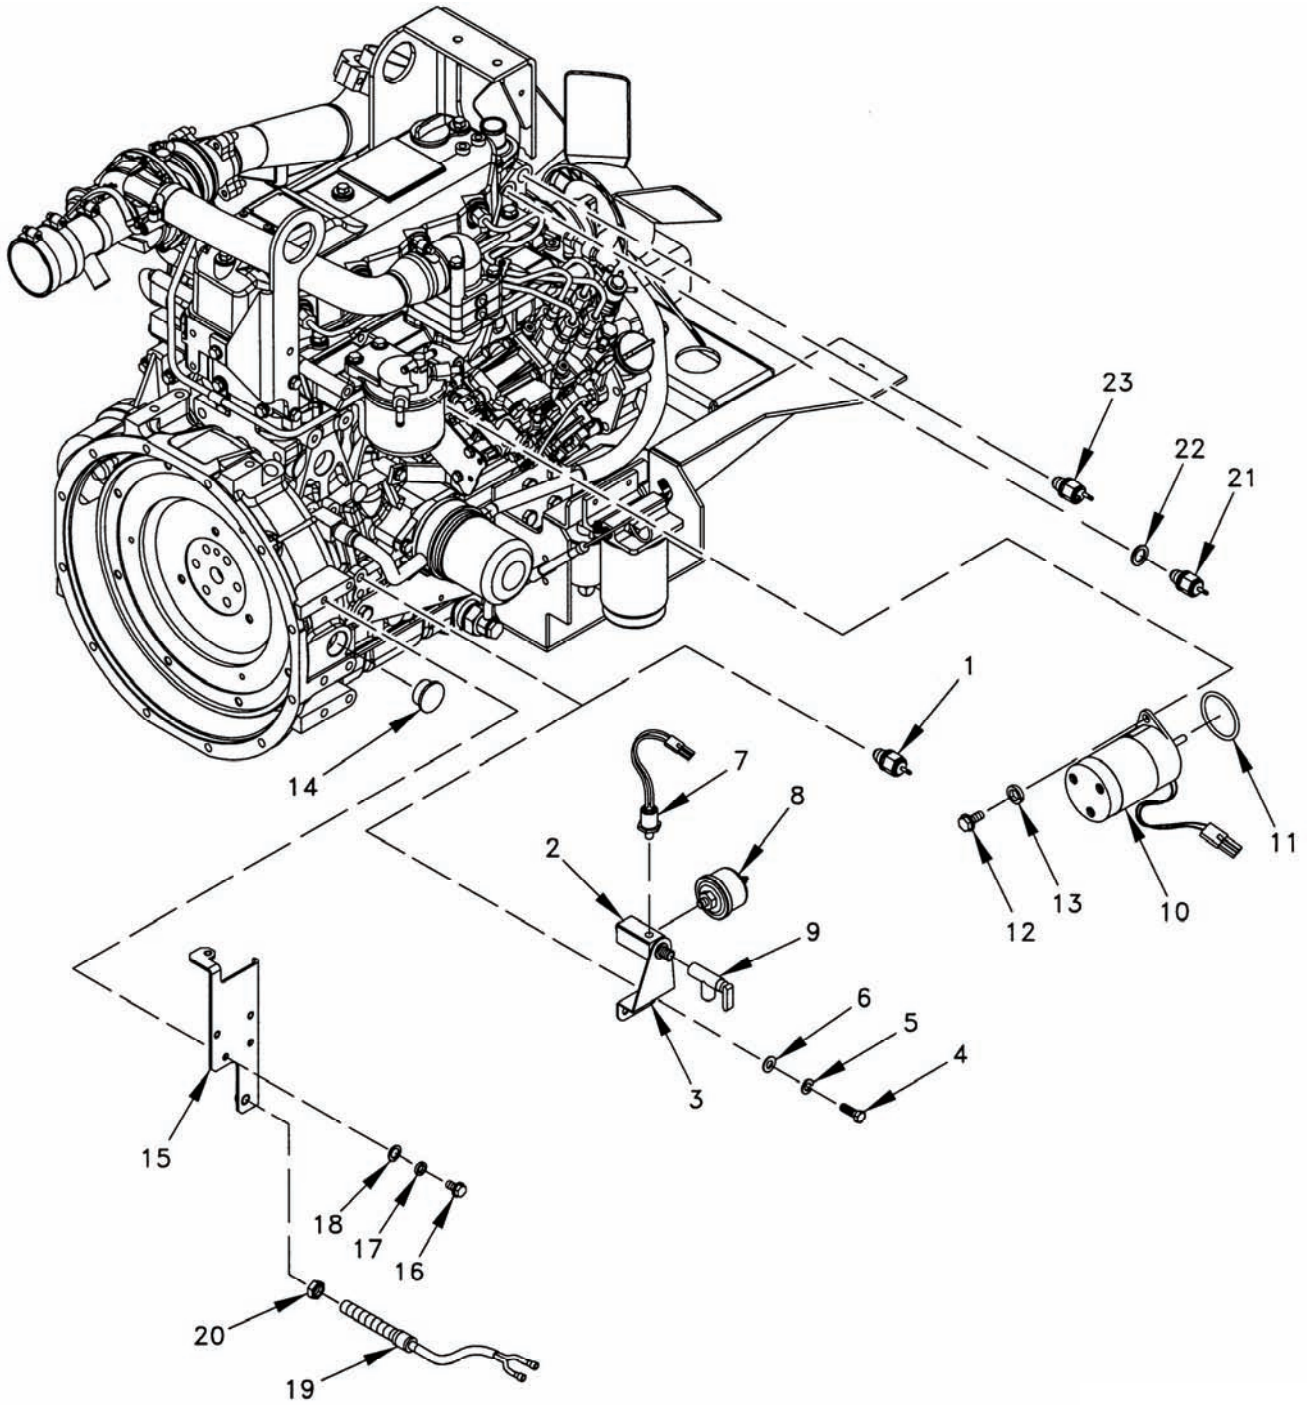

Figure 5-24. Right Side Engine Sensors and Components.
- a. Remove oil pressure switch (1) from engine block and install manifold (2, Figure 5-24) (Item 7, Table 5-1) and manifold bracket (3) (Item 8, Table 5-1) using two screws (4) (Item 51, Table 5-1), lock washers (5) (Item 54, Table 5-1), and flat washers (6) (Item 56, Table 5-1). Be sure holes in sides of manifold are oriented correctly for installation of items 7 and 8.
- b. Install new oil pressure switch (7) (Item 9, Table 5-1), oil pressure sender (8) (Item 11, Table 5-1), and oil sampling valve (9) (Item 10, Table 5-1) using sealing compound (Item 6, Table 5-2).
- d. Install governor actuator (10) (Item 13, Table 5-1) and O-ring (11) (from shutdown solenoid) using two screws (12) (Item 68, Table 5-1) and lock washers (13) (Item 82, Table 5-1).
- e. Remove rubber cover (14) from engine bell housing.
- f. Install magnetic pickup bracket (15) (Item 12, Table 5-1) using two screws (16) (Item 40, Table 5-1), lock washers (17) (Item 55, Table 5-1), and flat washers (18) (Item 57, Table 5-1).
- g. Install magnetic pickup (19) (Item 22, Table 5-1) and lock nut (20) (supplied with transducer).
- h. Screw magnetic pickup (19) into bracket (15) until pickup contacts top surface of gear tooth on flywheel. Back out one turn and tighten lock nut (20).
- i. Remove shipping plug and temperature switch and install temperature sender (21) (Item 70, Table 5-1), copper washer (22) (Item 90, Table 5-1), and temperature switch (23) (Item 69, Table 5-1) using sealing compound (Item 6, Table 5-2) on threads.